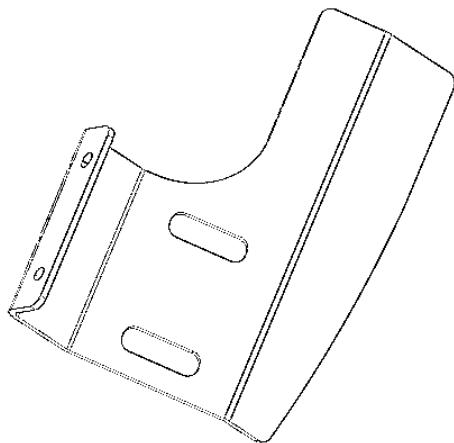

Figure 8. Long Offset Extender
- ▶ NVPN: 682-00003-5555-006 – Long offset extender (Figure 8)